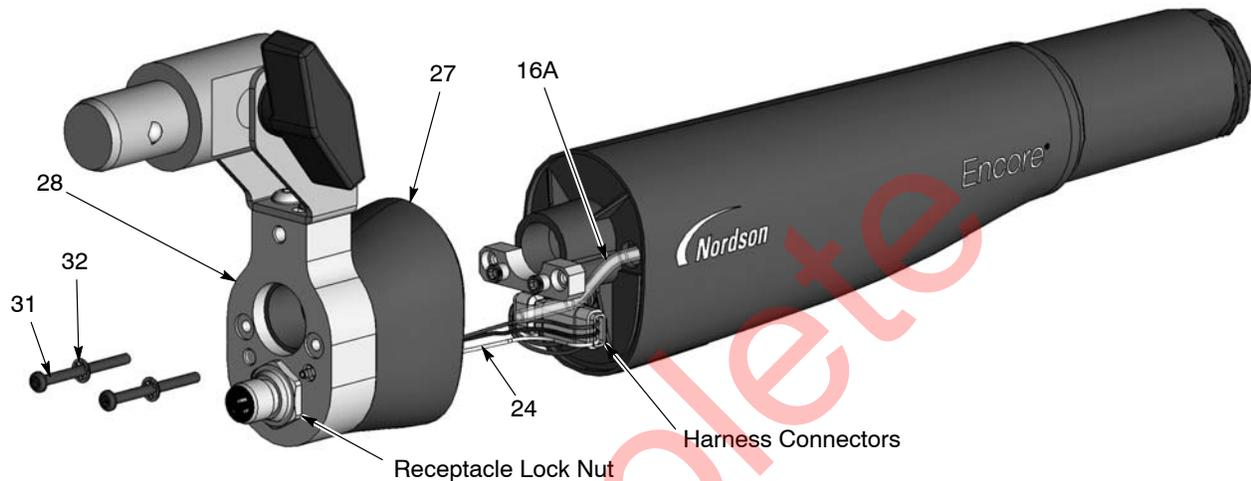

Figure 7-2 Gun Disassembly – Powder Tube Replacement
3. See Figure 7-2. Unscrew and remove the two socket-head screws (31) and internal-toothed lock washers (32) from the end cap (28).
- c. See Figure 7-2. Unscrew the lock nut from the receptacle, then remove the receptacle and harness from the end cap.
17. See Figure 7-2. Install the end cap and rear gun body assembly on the gun body, making sure not to pinch the harness wires.